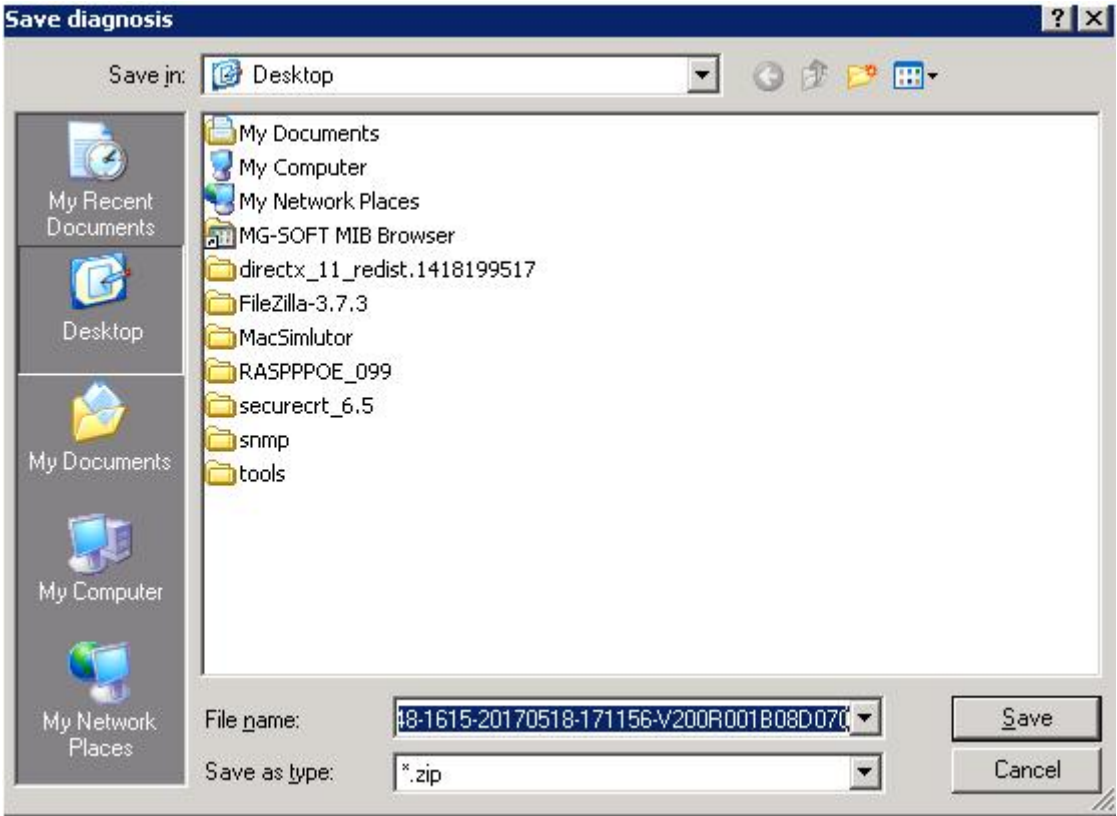

Figure 14-7 Saving Diagnosis
(3) After clicking **[OK]** button, set the save path on the new dialogue box and click **[Save]**, as shown in the Figure 14-7.